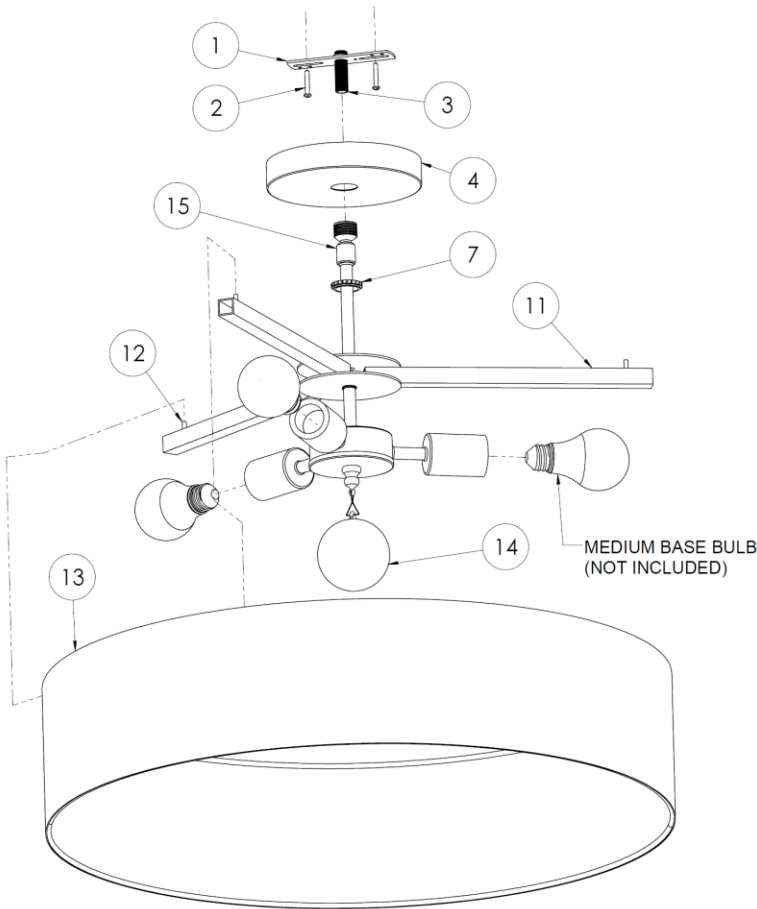
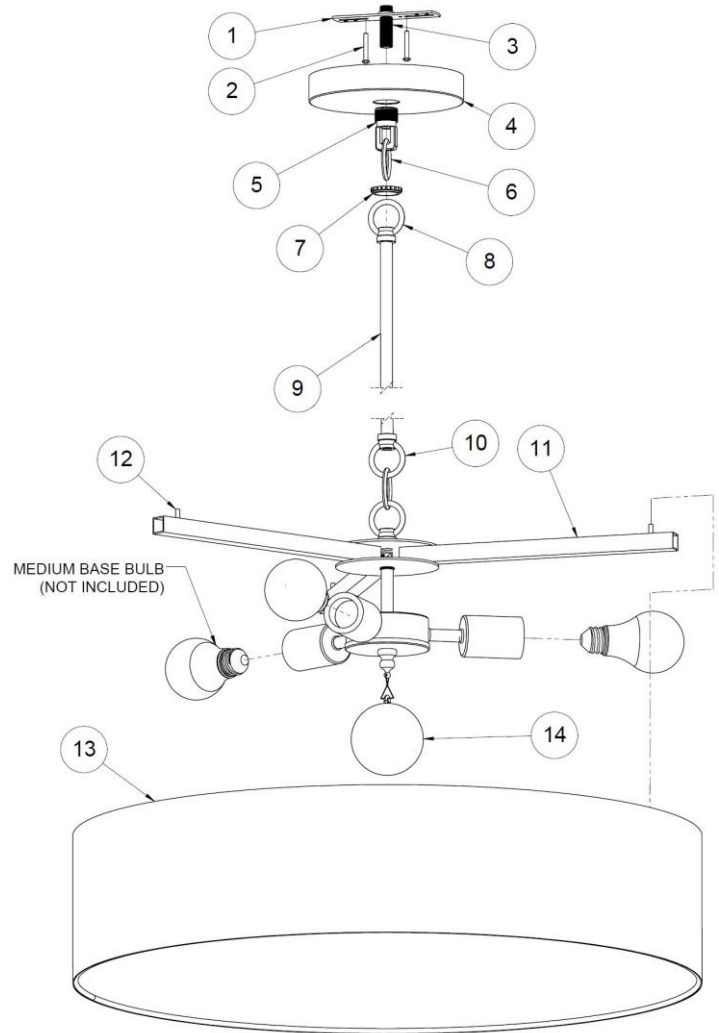

FIGURE 1
FIGURE 2
- C. Remove components from the hardware kit. Note: kit can be configured as closest to ceiling (Figure 1) or pendant (Figure 2) depending on your application.
- D. Fixture is provided with 108" adjustable power cord and 60" sectional stems (9) that can be extended with optional accessory. The standard stems (9) included are four 12" and two 6" long to make pendant. And an alternate wobble fitting with stem (15) to make closest to ceiling.
- E. Install mounting bracket (1) to the 3-0 or 4-0 junction box (not included) using two screws (2) to secure it.
- G. Install nipple (3) on the mounting bracket (1) allowing 1" to protrude outward then using jam nut to secure it.
- H. **For Closest to Ceiling (Figure 1) application:** feed power cord inside the wobble fitting with stem (15) then tighten it to the nipple on the socket hub (11) to secure it. Note: unused components can be discarded after installation is completed.
- I. **For Pendant (Figure 2) application:** assemble the stems (9), top loop fitting (8) and bottom loop fitting (10) to one another as needed to achieve desired drop height. It is easier to feed fixture power cord through each stem prior to connecting them together. Turn clockwise to tighten and secure bottom fitting (10) to the nipple on the socket hub (11) then tighten top loop fitting (8) to secure it. Install top coupler fitting (5) to the top loop fitting (8) using link lock (6) to secure them together. Note: unused components can be discarded after installation is completed.
- J. Feed the fixture power cord through the canopy nut (7), canopy (4) and nipple (3). Leave excess fixture power cord hanging loose on the same side as the wires from the supply power source.
- K. Install the fixture assembly with the fittings (15) or (5) to the nipple (3) then tighten to secure it.